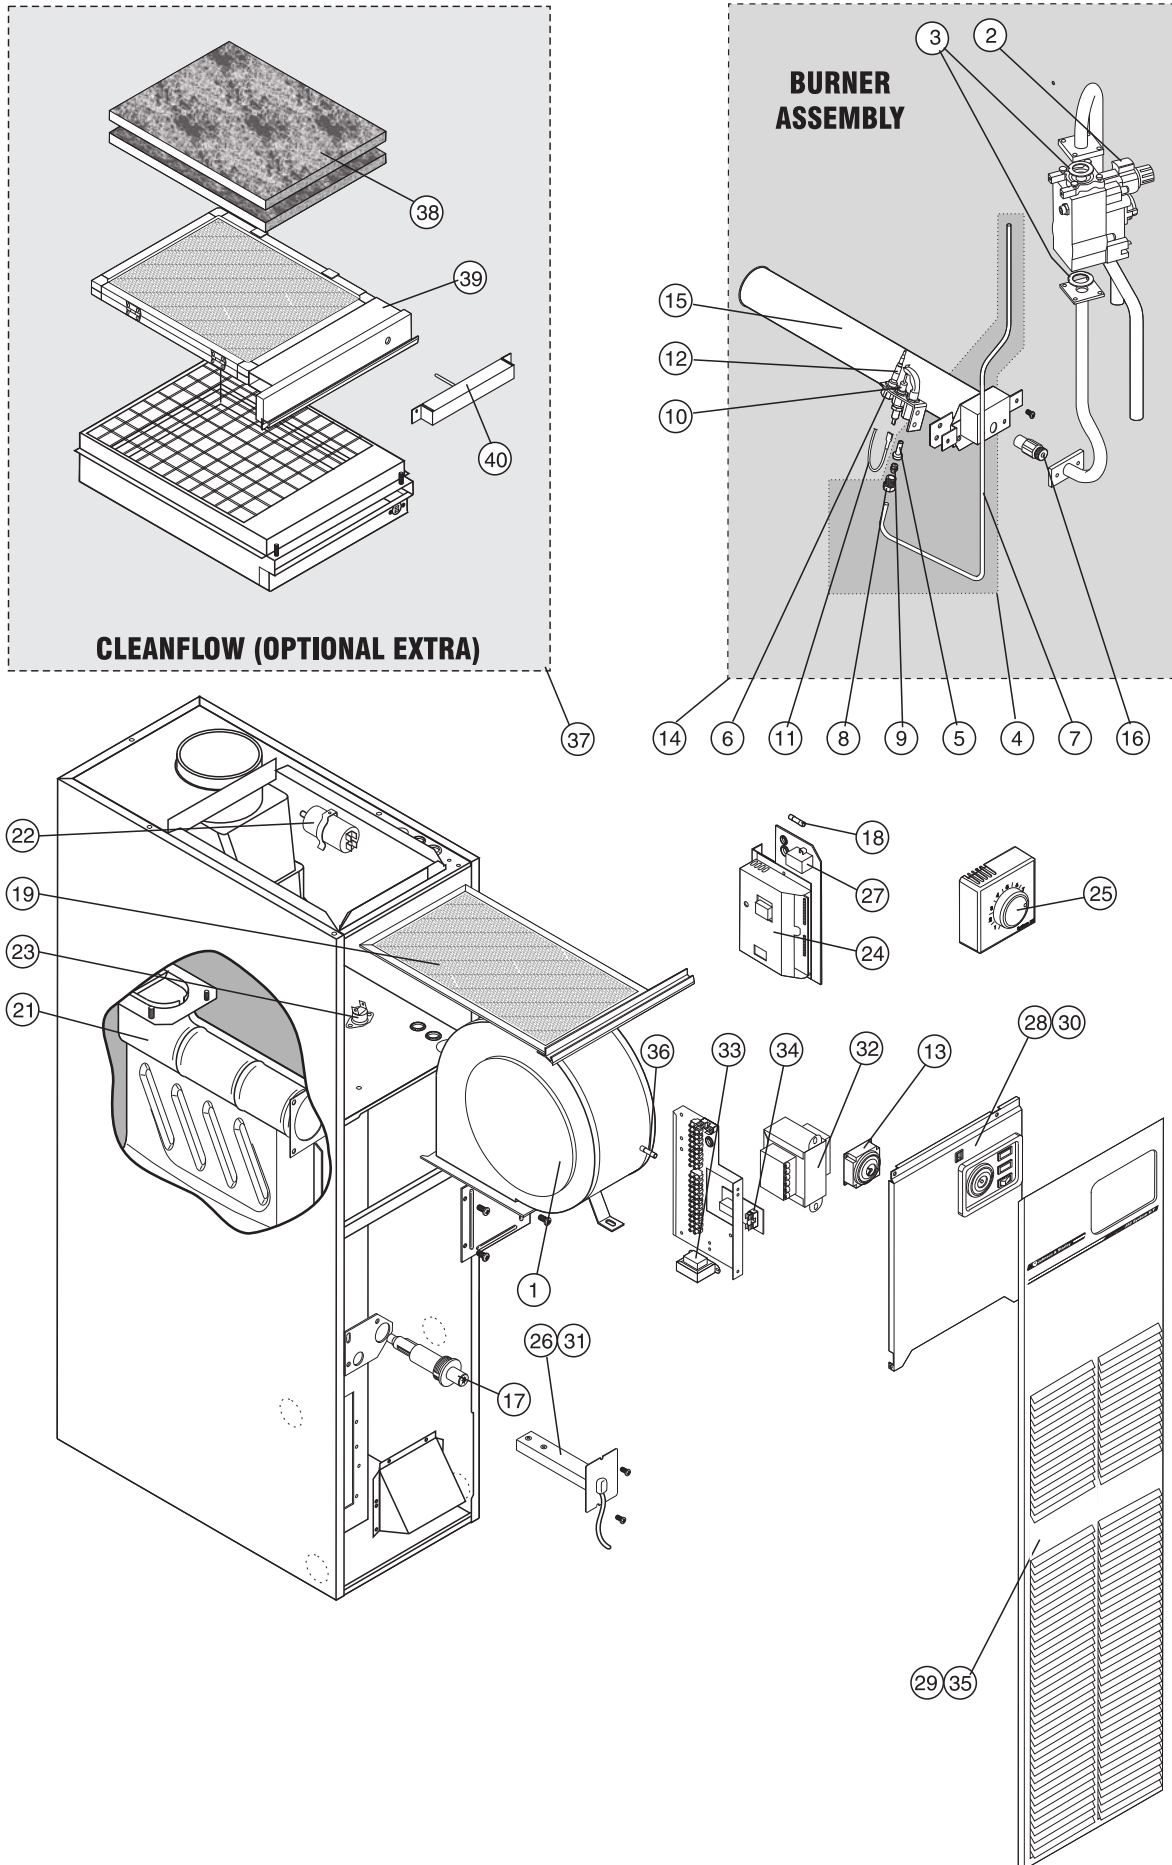

FIGURE 8. EXPLODED DIAGRAM
14. LIST OF SPARES (REFER TO THE EXPLODED DIAGRAM - Figure 8.)